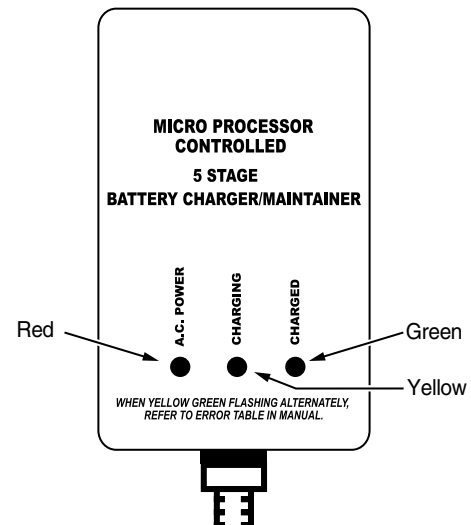

Figure 10 – MBSP LED Panel
4. With the charger properly connected and plugged in, the panel on the front of the charger will show one of the conditions illustrated in Figure 10.